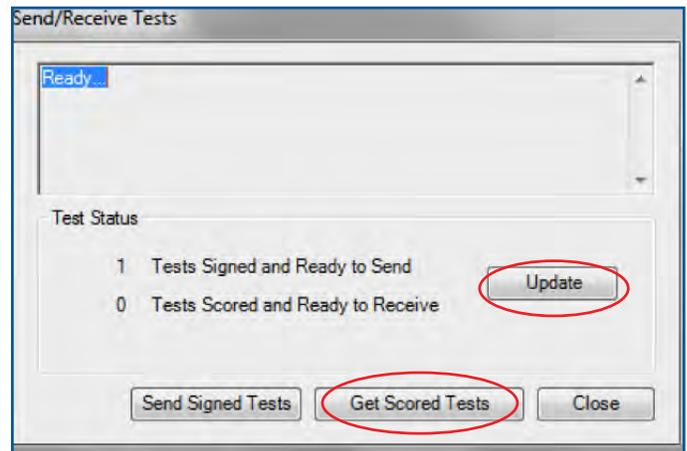

FIGURE 2.18 - Send/Receive Tests Window - “Update” and “Get Scored Tests” Buttons
2. Click “Update” and then “Get Scored Tests” (Figure 2.18).